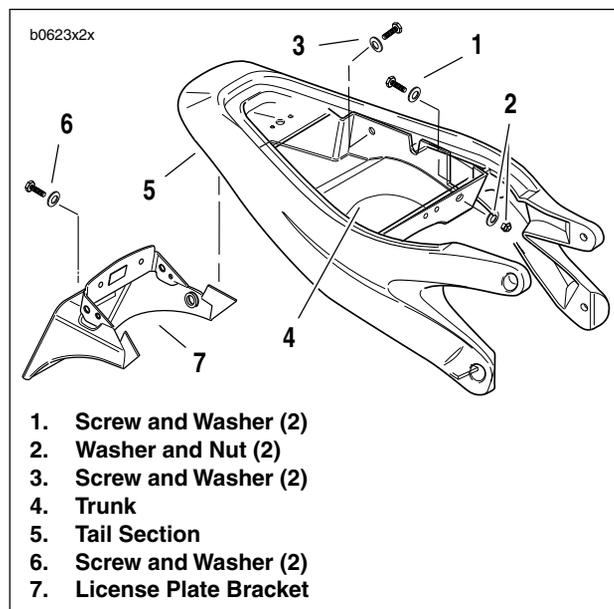
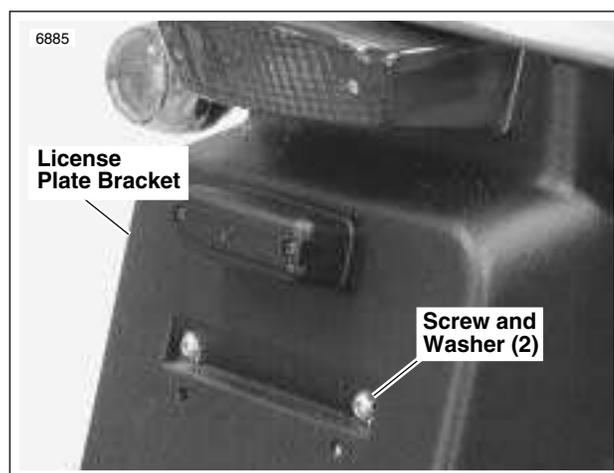

Figure 2-126. Tail Section with Trunk
Figure 2-127. License Plate Bracket
2. See Figure 2-126. Remove two screws and washers (1) and nuts and washers (2) securing front of trunk (4) to tail section (5).
3. Remove two screws and washers (3) securing trunk (4) to tail section (5) under edge of tail section.
4. See Figure 2-127. Remove screws and washers (1) from indentation in license plate bracket (2).
1. See Figure 2-126. Position trunk (4) in tail section (5).
2. Secure front of trunk (4) to tail section (5) with two screws and washers (1) and washers and nuts (2).
3. Secure trunk (4) to tail section (5) with two screws and washers (3) under edge of tail section.
4. See Figure 2-127. Secure trunk to license plate bracket (2) with screws and washers (1).